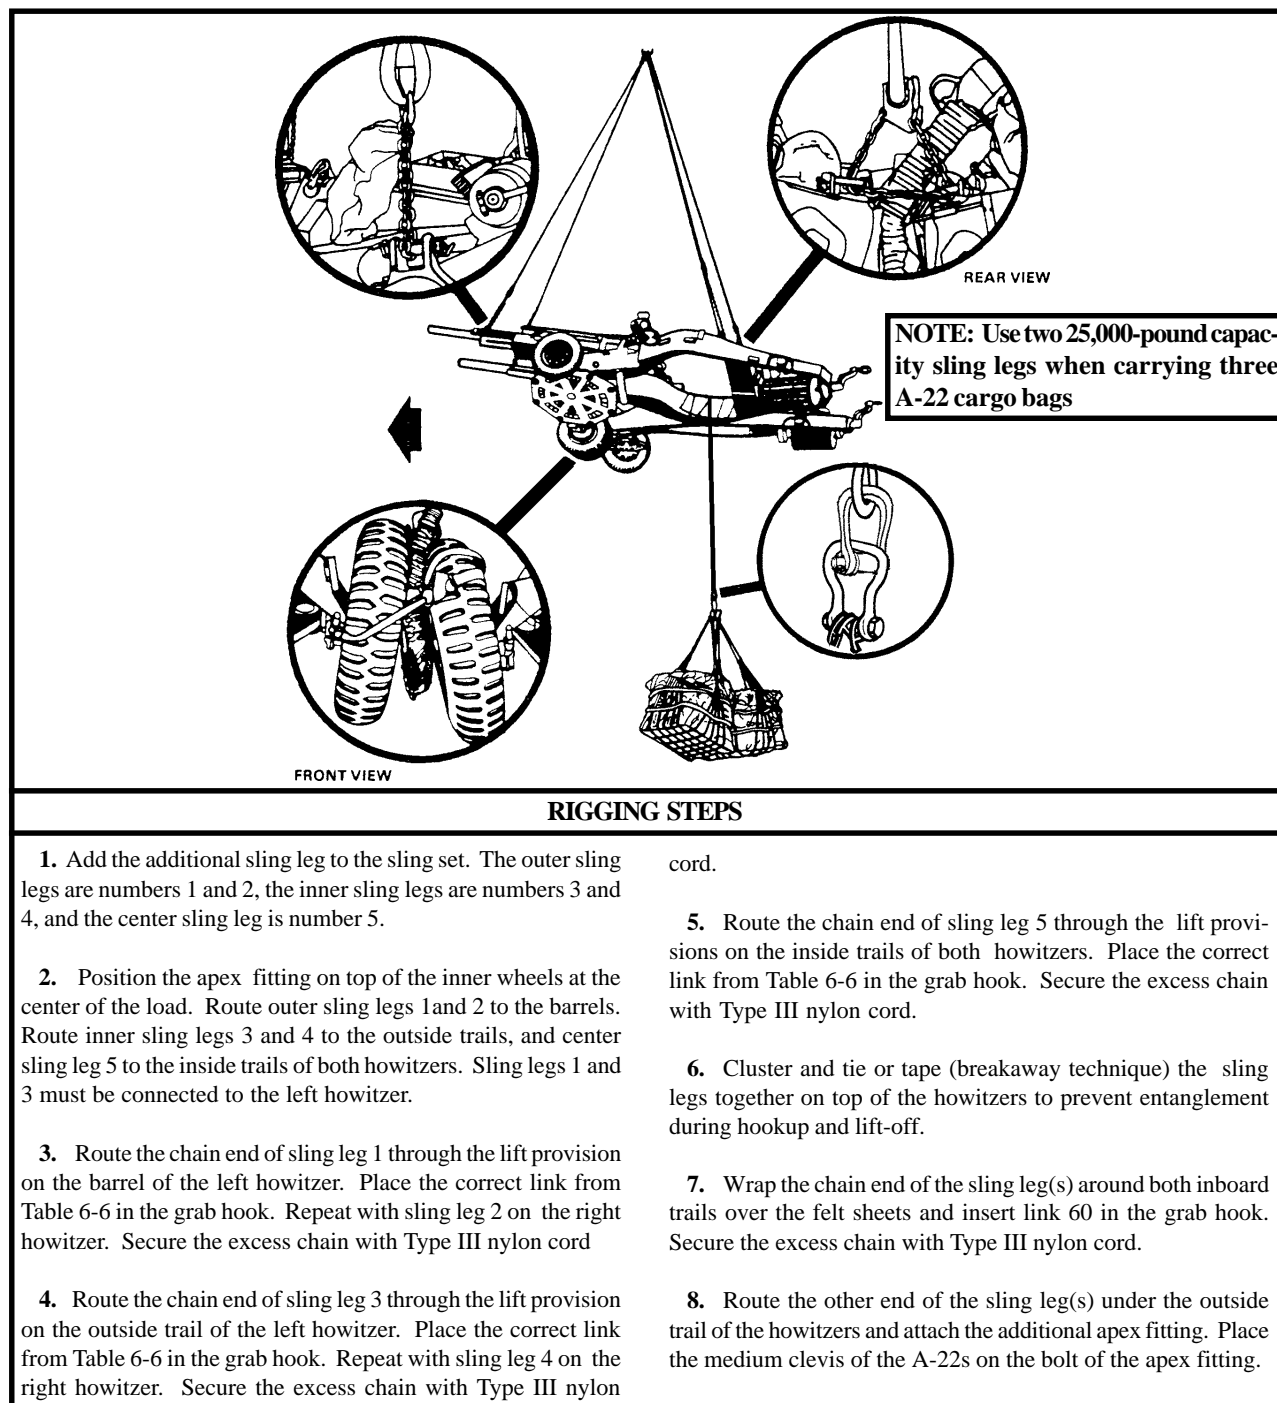

Figure 6-6. Two M102 105-MM Howitzers with One, Two, or Three A-22 Cargo Bags
(2) Rigging. Rig the load according to the steps in Figure 6-6.
(3) Hookup. The hookup team stands on top of the padding wrapped around the inside trails. The static wand person discharges the static electricity with the static wand. The hookup person places the apex fitting onto the aircraft cargo hook. The hookup team then moves clear of the helicopter but remains close to the load as the helicop